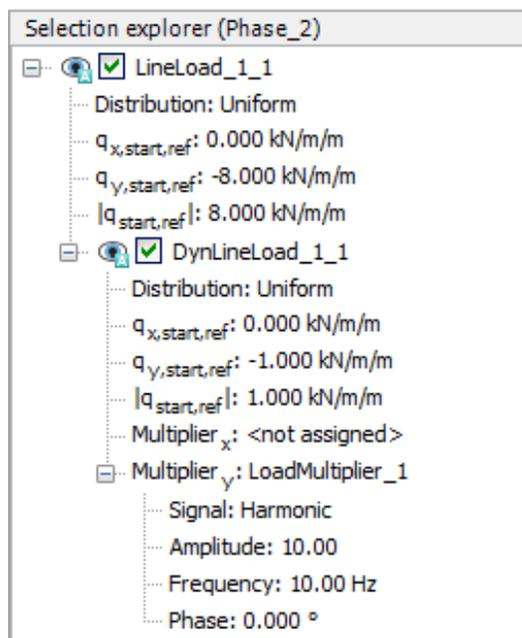

Figure 195: Specification of the dynamic load component in the **Selection explorer**
11. Specify the components of the load as $(q_{x, start, ref}, q_{y, start, ref}) = (0.0, -1.0)$. Click Multiplier_y in the dynamic load subtree and select the LoadMultiplier_1 option from the drop-down menu as shown in Figure 195 (on page 220).